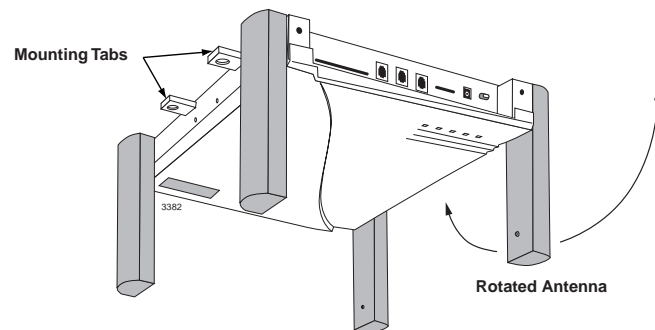

Figure 16-13 Mounting Tabs Location on the Base Station
③ To ceiling mount the Base Station
1. Rotate Base Station antennas to expose the mounting tabs (see Figure 16-13).